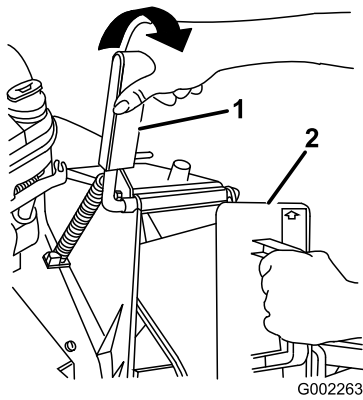

Figure 5
- Open the discharge door by pulling forward on the handle and moving it rearward (Figure 5). Hold the discharge door handle to prevent the spring-loaded door from closing while you insert the plug.
2. Since the plug is slightly wider than the discharge tunnel opening, rotate the plug clockwise slightly while inserting it (Figure 5).